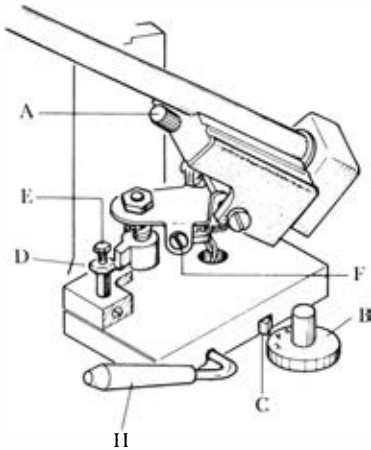

Figure 2-13. Typical changer mechanism adjustments. (Courtesy Allied Electronics)
In addition to tweeter level adjustments, installation personnel may be called upon to make record-player adjustments, such as stylus pressure, antiskate, tone-arm height, and stylus set-down adjustments. With reference to Fig. 2-13, the stylus pressure adjustment is made in the exemplified record player with the aid of a suitable stylus pressure gage. This type of gage indicates the stylus pressure in grams, and the pressure is adjusted to the value specified in the record-player manual. In this example, the stylus pressure knob (A) is turned clockwise to reduce the stylus pressure; it is turned counterclockwise to increase the stylus pressure. Note that when the stylus pressure is changed, the antiskate compensation knob must be adjusted correspondingly.